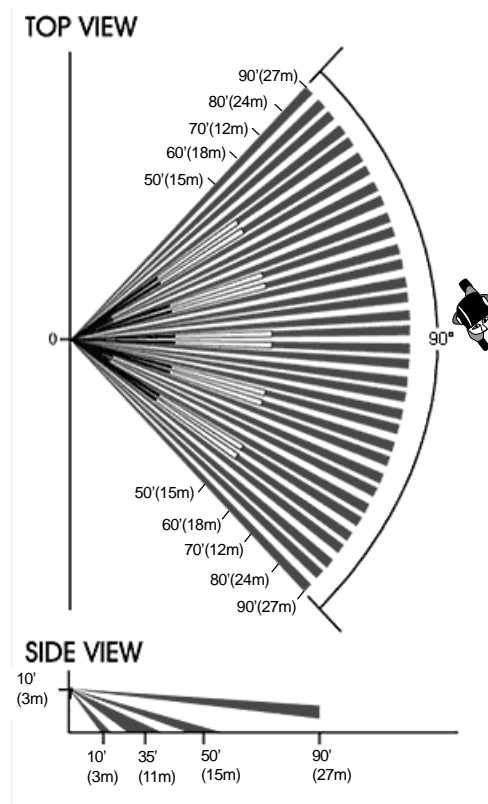

Figure 2. Coverage Pattern
- Mount the detector so the expected movement of an intruder is across the detection pattern. See Figure 2.